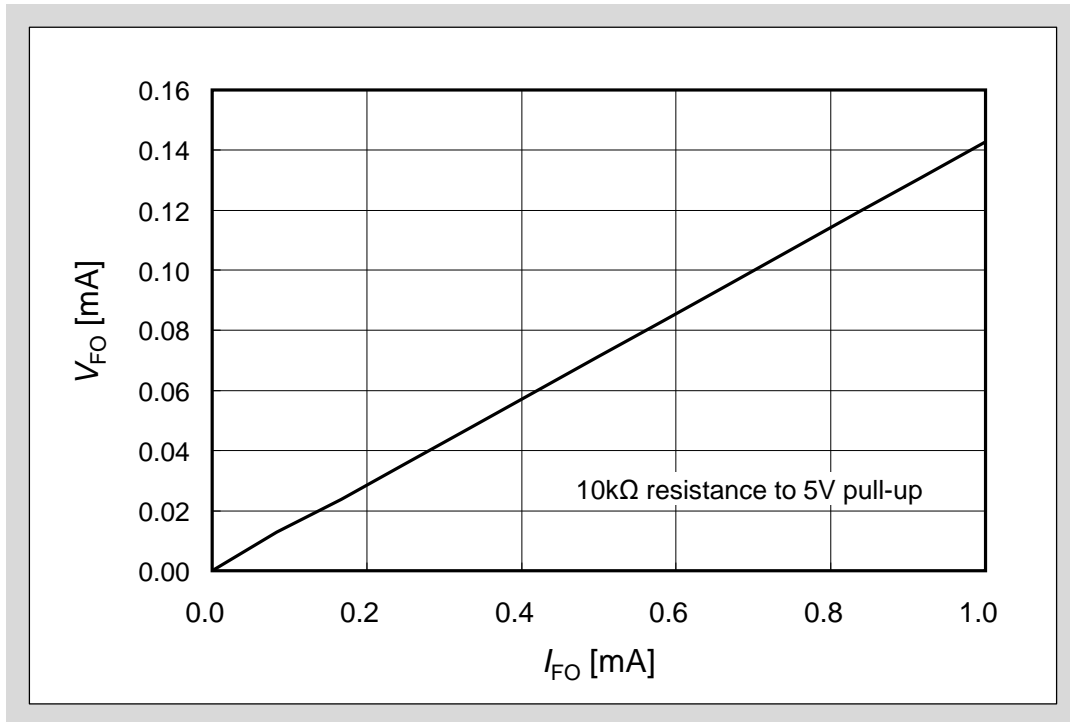

Fig. 3-22 Voltage-current characteristics of VFO terminal during fault status output
- Fig. 3-22 shows the voltage-current characteristics of VFO terminal during fault status output. I_{FO} is the sink current of VFO terminal.